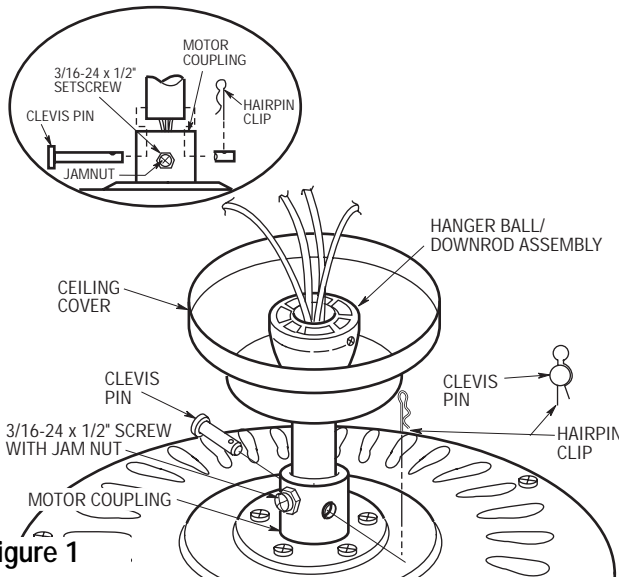

Figure 1
1. Pass the 80" motor leads through the opening in the ceiling cover. Be sure the cover is oriented correctly (Figure 1).
3. Align the clevis pin holes in the downrod with the holes in the motor coupling. Install the clevis pin and secure with the hairpin clip (Figure 1). The clevis pin must go through the holes in the motor coupling and the holes in the downrod. Be sure to push the straight leg of the hairpin clip through the
- 4. Back off the jam nut until it rests loosely against the setscrew head (supplied). Install the setscrew in the motor coupling (Figure 1) and tighten securely while pulling up on the downrod. Using a 5/16-inch open end wrench or pliers, tighten the jam nut securely against the motor coupling.